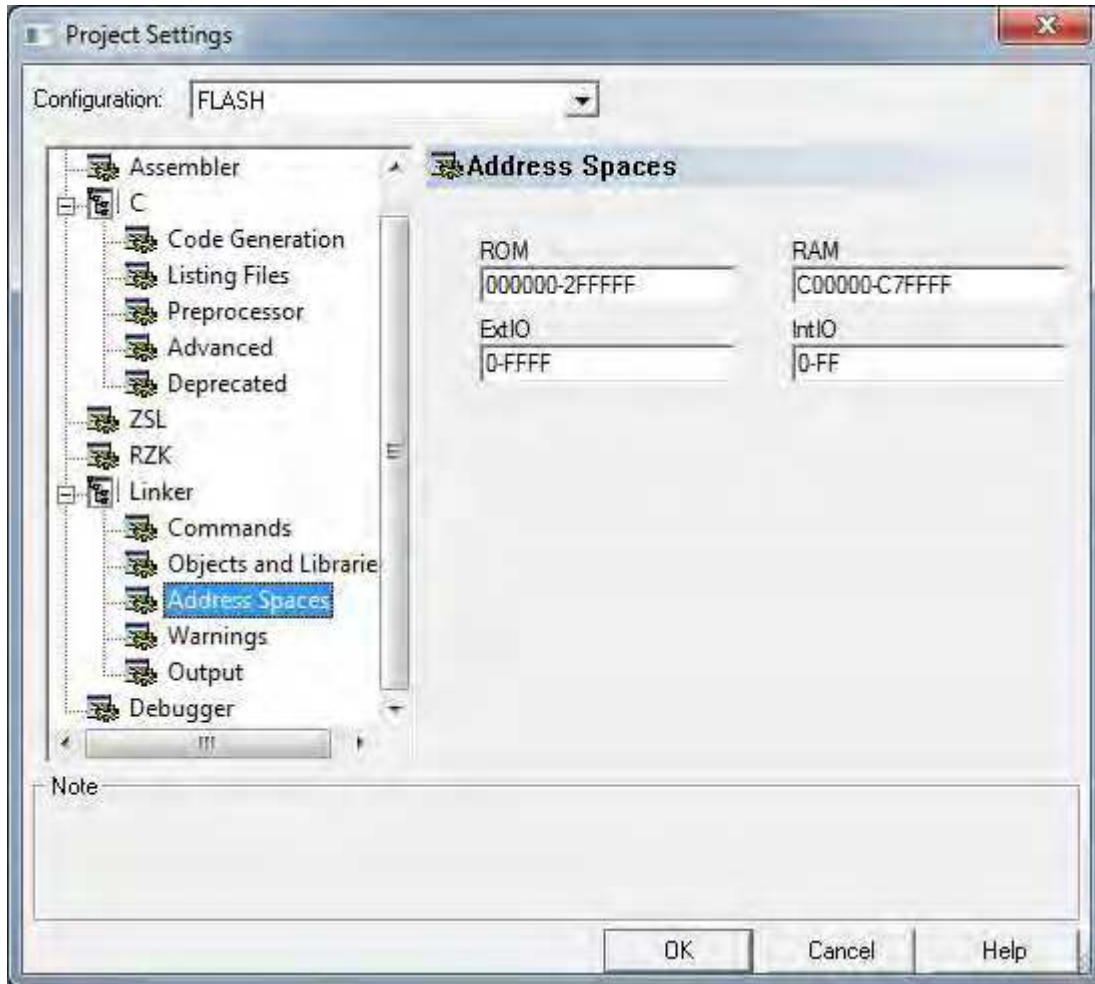

Figure 5. The Address Spaces Dialog for the Flash Build
tings menu for Flash build configurations which are shown in Figure 5. Verify that the settings match the values shown in this figure.
► **Note:** The ROM address space shown in Figure 5 only includes the first 3 MB of external Flash memory. If the project requires additional ROM memory (i.e., code space), the upper range of the ROM address space can be increased up to 0x7FFFFFF.